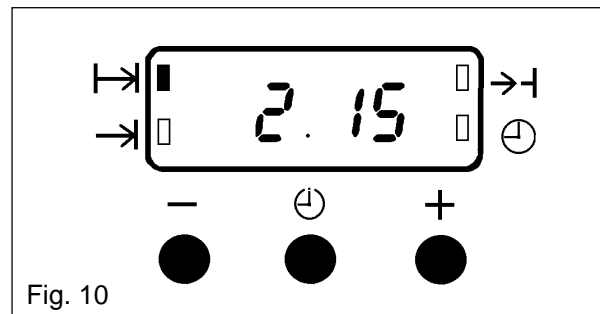

Fig. 10
- iii) To set the length of cooking time, press the Selector Control button until the 'Cook Time' (→) indicator is illuminated. Press the increase control (+) until the required length of cooking time is displayed, e.g. 2 hrs 15 mins as Fig. 10. Depress the decrease control (-) if necessary.